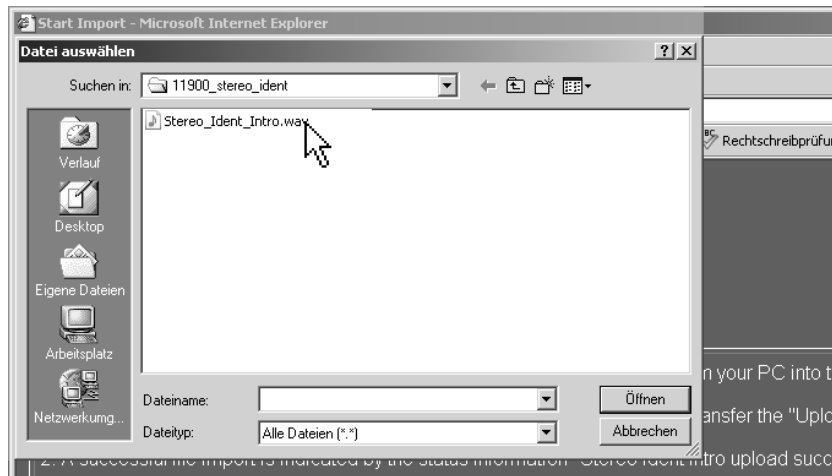

Fig. 8-33: The file selection dialog box (blitsIntro.wav)
4. Choose the folder (e. g.: C:\11900\_BLITS) with the ident intro wave file and click the file e. g. **Stereo\_Ident\_Intro.wav** (see Fig. 8-33).